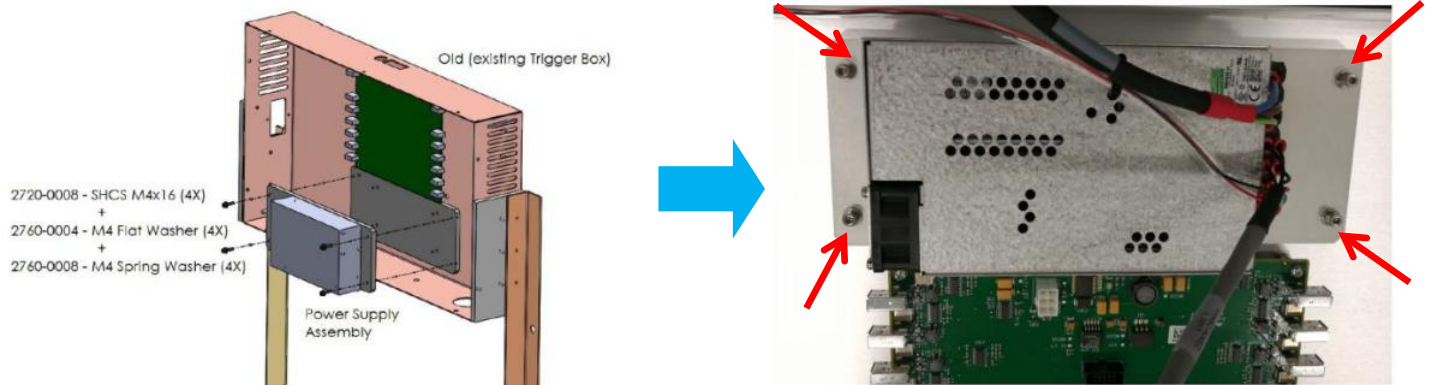

Figure 23 Trigger Board Power Supply & Adapter Assembly
7. Assemble Trigger Board Power Supply & Adapter at Trigger Board Tray as below Figure 23. Tighten 4 pcs M4 x 16 Screws & M4 Spring Locks